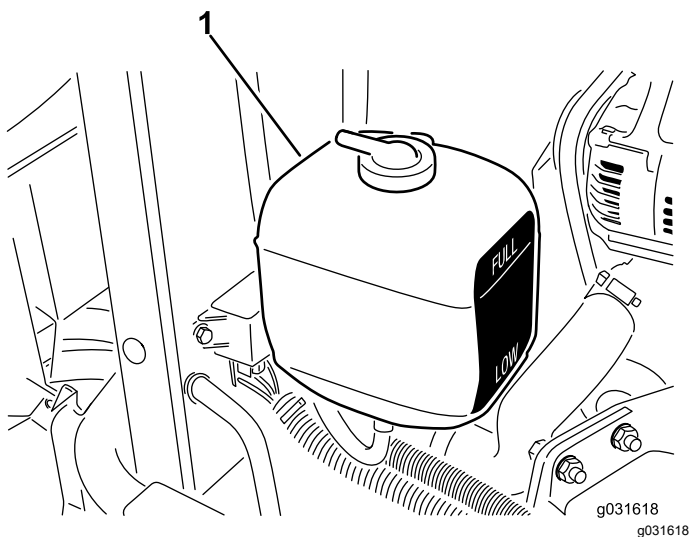

Figure 59
1. Check the coolant level in the expansion tank (Figure 59).